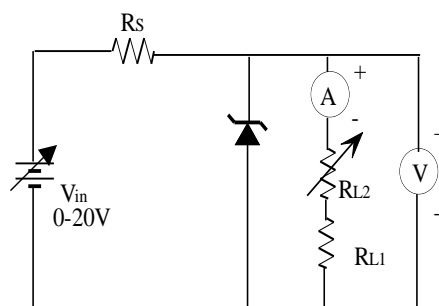

Fig. 2.2: Zener Voltage Regulator
1. Rig the circuit as shown in fig. 2.2.